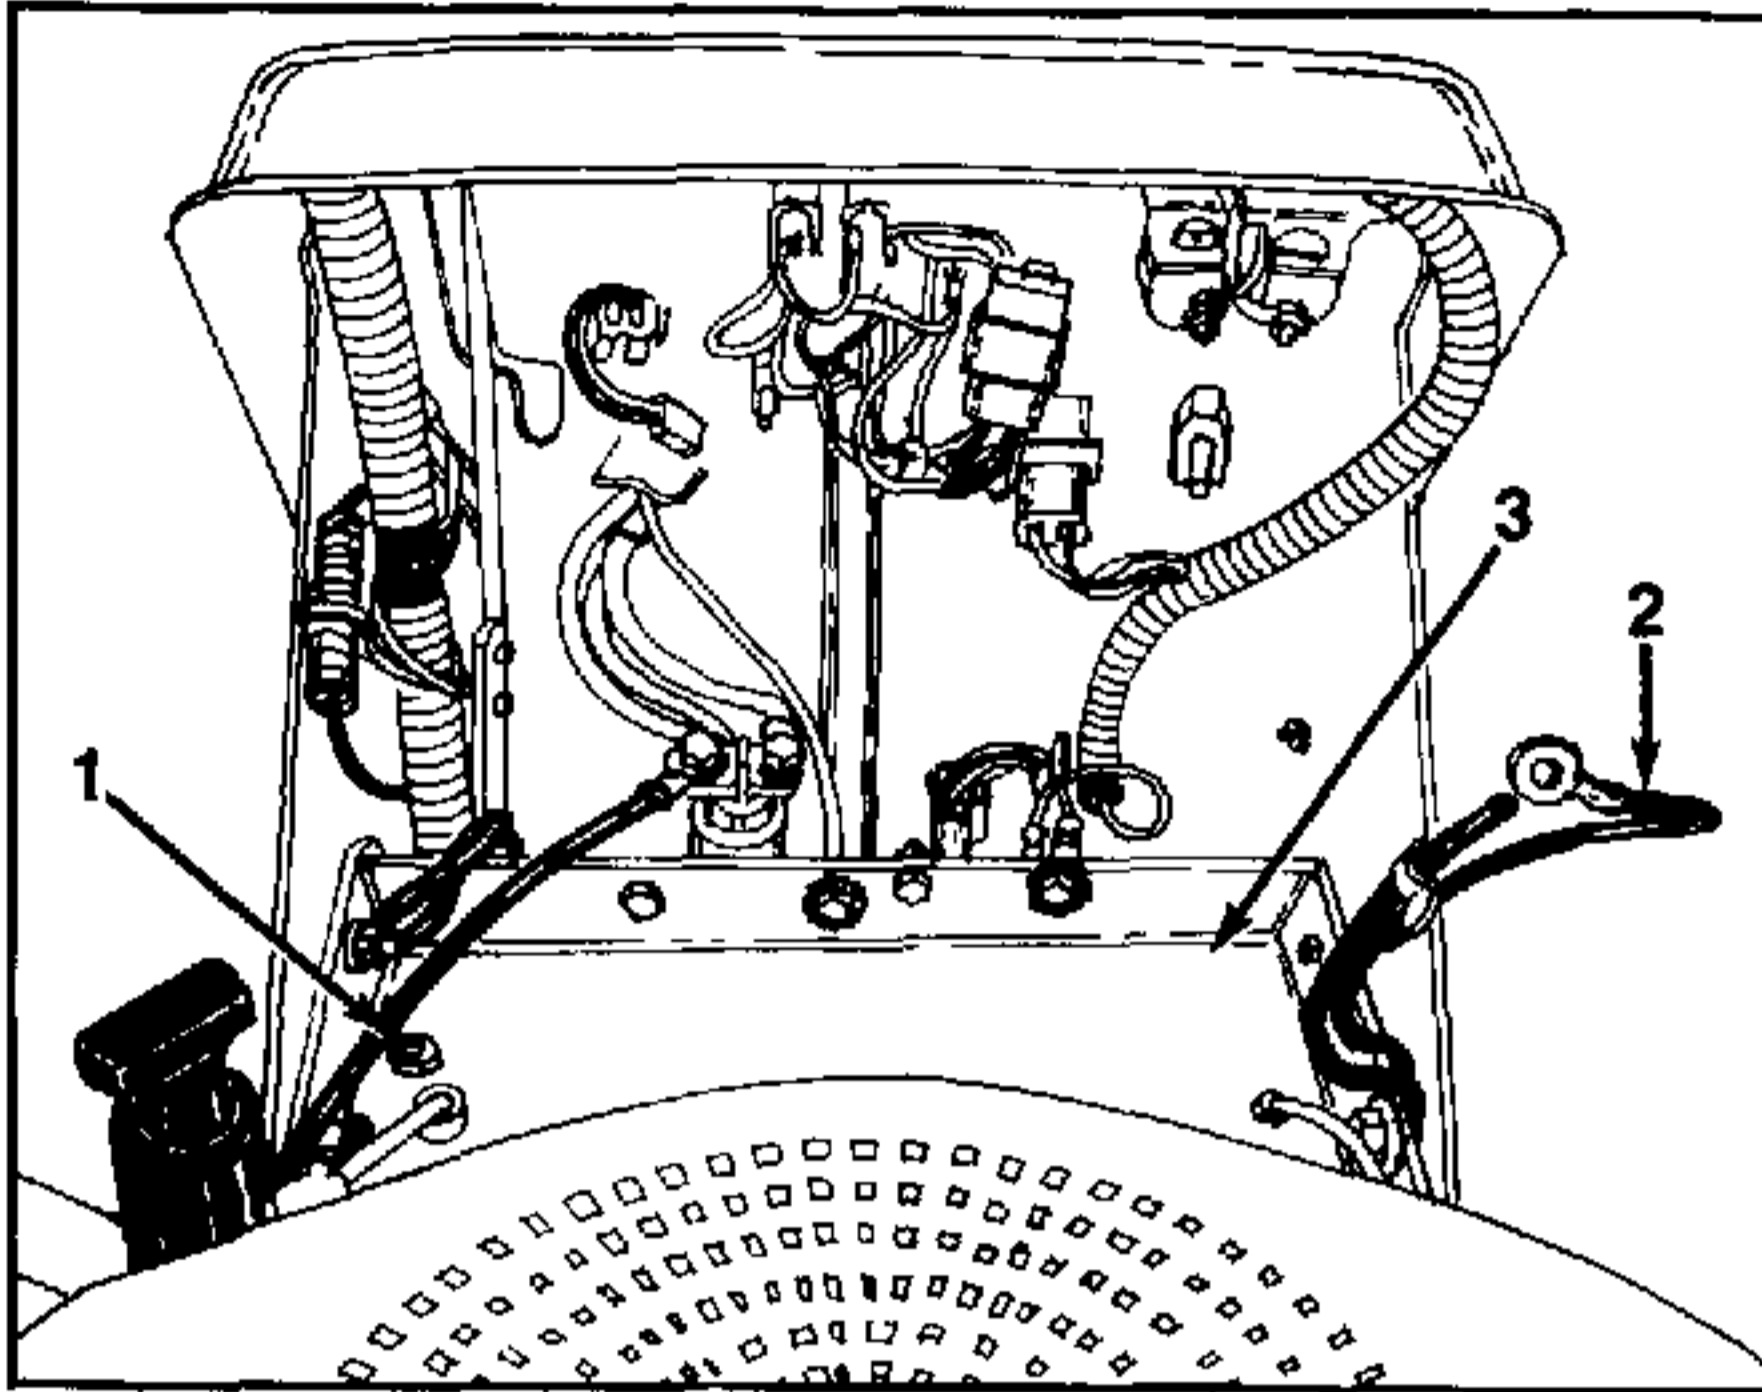

FIGURE 1.
3. Lift out the battery from the battery tray. See figure 1.